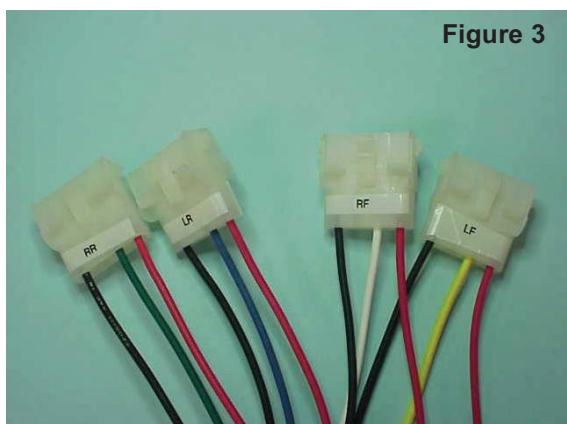

Figure 3
3. The sensor harness has 4 connectors, one for each jack leg (*see figure 3*).